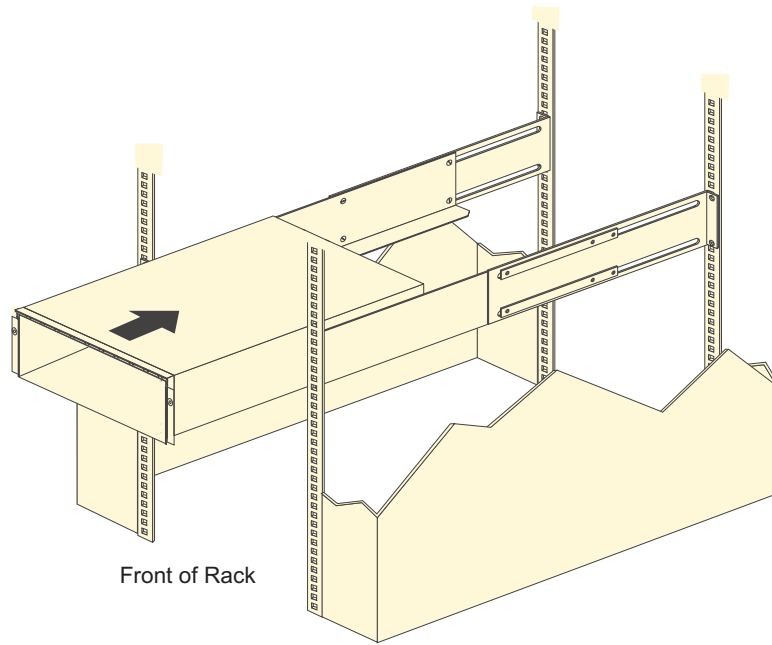

Figure 19. Installing the DS5020
- b. With help from another person, place the back of the storage subsystem on the support rails, and then slide the unit into the rack as shown in Figure 19 on page 43.